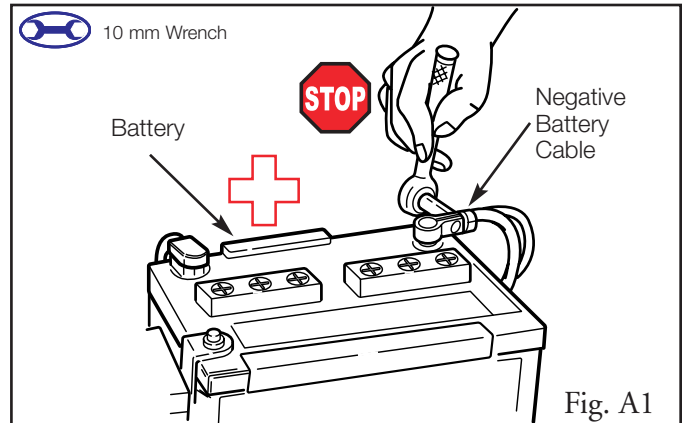

Fig. A1
1. Remove the negative battery cable. (Fig. A1)